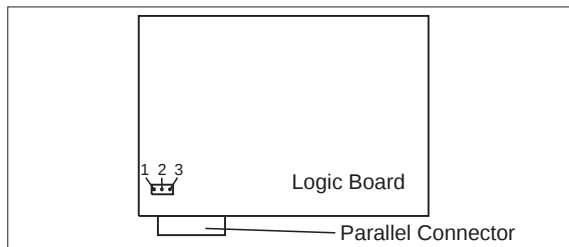

Figure 123. Model 001/002 Logic Board Jumper Location. (Viewed From Rear)
6. Disconnect all connectors from the logic board and remove the jumper for use on the new board. See Figure 123 on page 384.